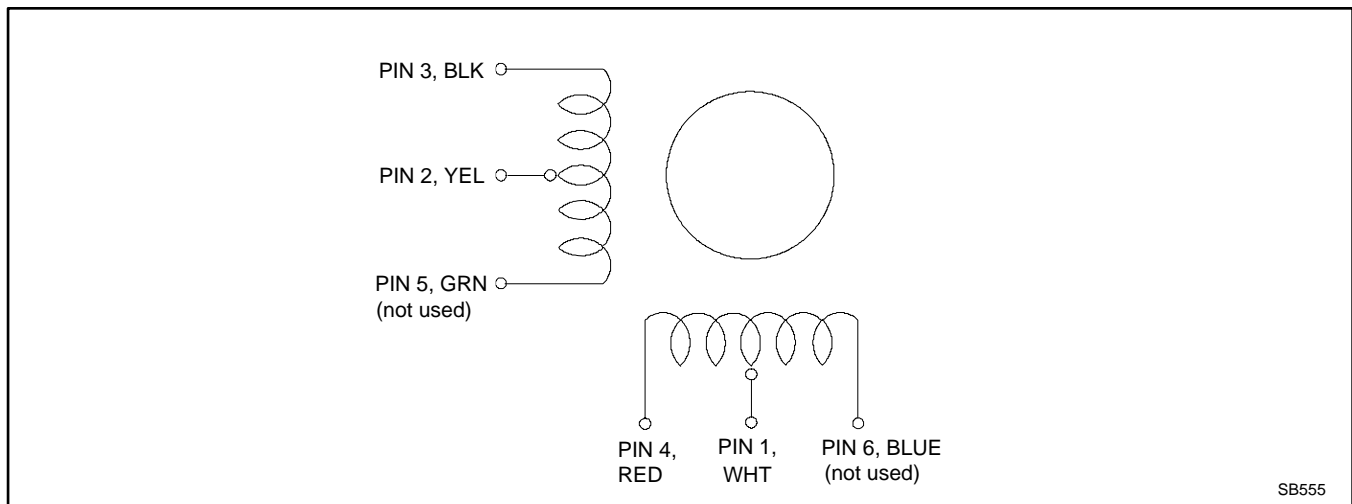

Figure 79 Actuator Coil Group
10. Check the stepper motor coil resistance across pins 2 and 3 and across pins 1 and 4. Only two stepper motor leads of each coil group are used (BLK-YEL and RED-WHT). See Figure 79. The resistance per half coil is 38.5 ohms. If one of the coils has a significantly higher resistance or is shorted, replace the stepper motor.